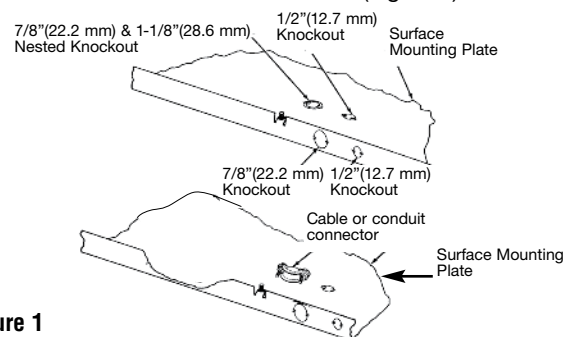

Figure 1
2. Remove the Surface Mounting Plate (Figure 1) from the carton containing the Surface Mounting Enclosure, Type FIE-SEB-N or FIE-SEBNW-W.
3. Remove one of the knockouts close to the ground screw and install a cable or conduit connector (Figure 1).